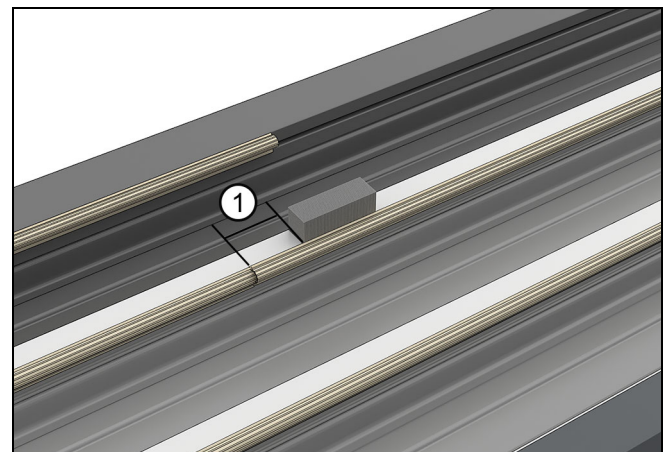

Figure 42
11. Place dust block(s) on the frame clips approximately 7/8" (22) from the splice (on the stationary or pocket side). These will line up with the edge of the panels. See Figure 42.